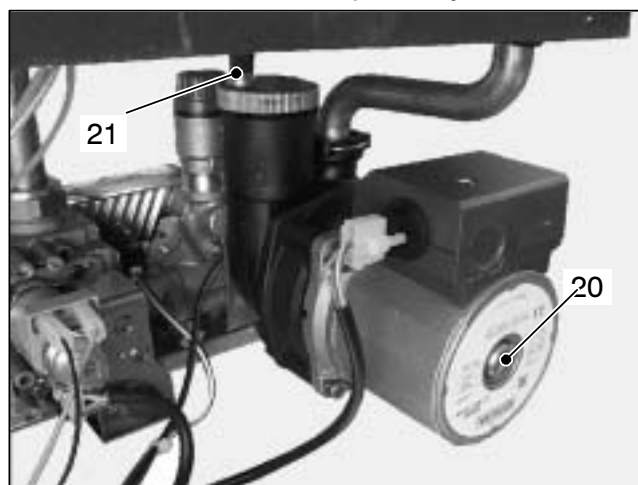

Fig. 7.2
- 3 Unscrew the cap on the automatic air purger-valve 21 (Fig. 7.2) one full turn and leave open permanently.
- 6 Purge the air from the pump by unscrewing the pump plug 20 (Fig. 7.2); release the pump shaft by turning in the direction indicated by the arrow on the information plate.